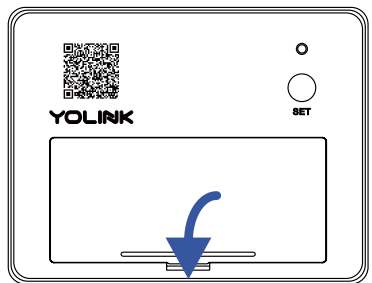

Figure 4
3. Reinstall the batteries and replace the battery compartment cover, as shown in Figure 4.